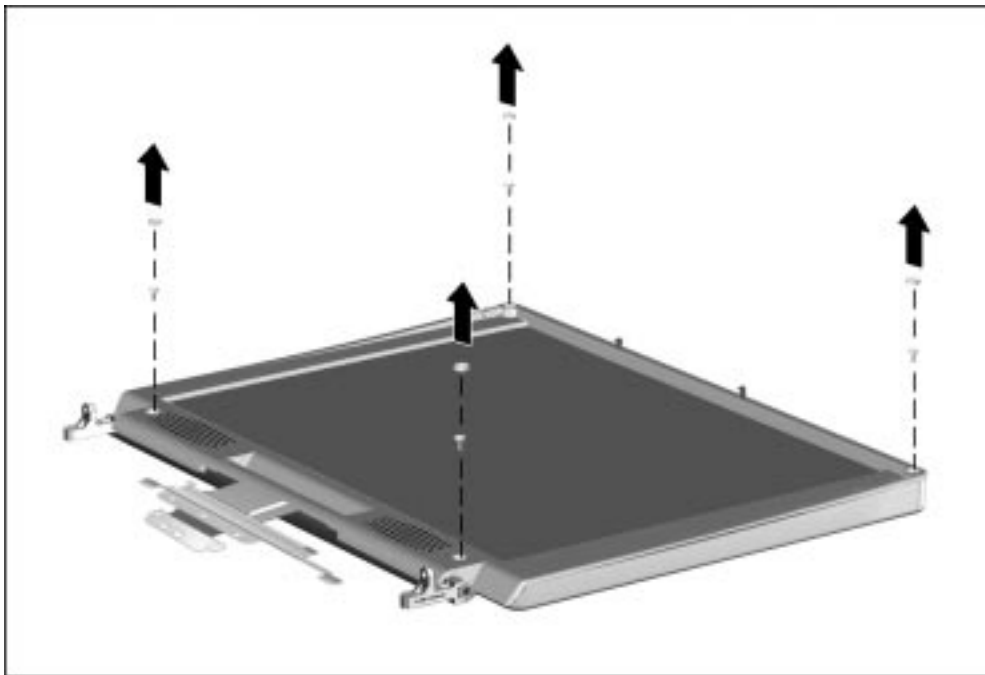

Figure 5-58. Removing the Display Bezel Screw Covers and Screws on the 13.3-inch Display
7. Remove the four screw covers and screws (13.3-inch display only, Figure 5-58).